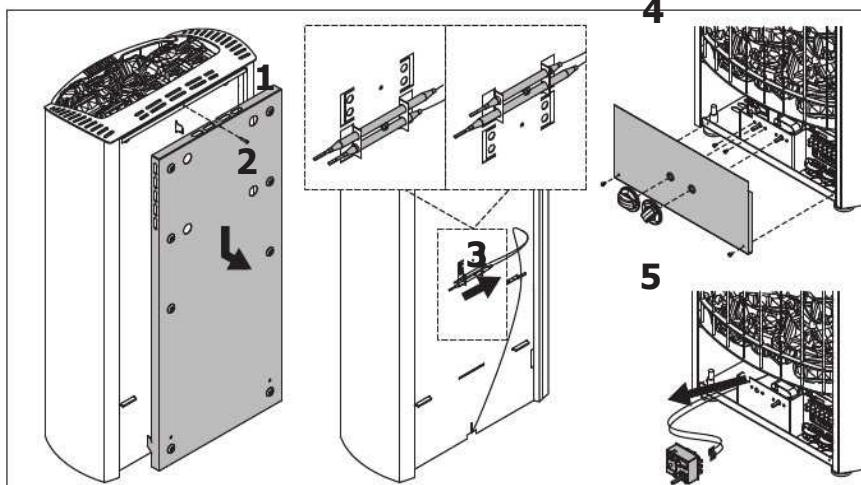

Figure 11. Replacing the thermostat
- Is the sensor of the thermostat out of place or broken? The correct position for the sensor and replacing the thermostat is illustrated in figure 11.